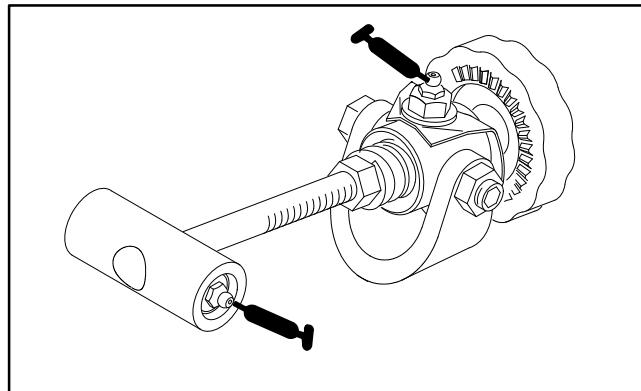
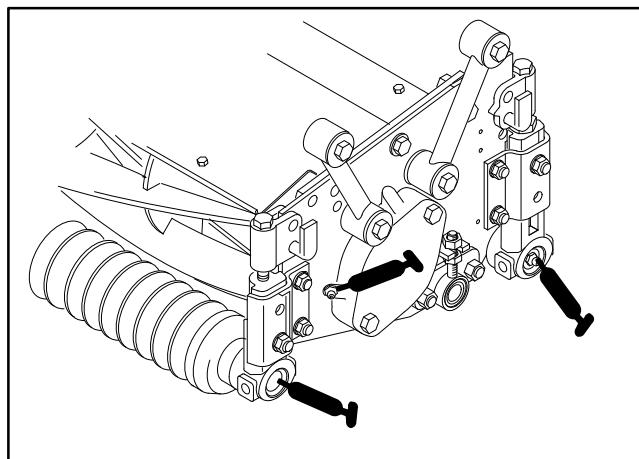

Figure 6
Figure 7
1. The grease fitting locations and quantities are: Bedknife adjuster (2), every 50 hours (Fig. 6); Reel bearings (2) and front and rear rollers (2 ea.) (Fig. 7)